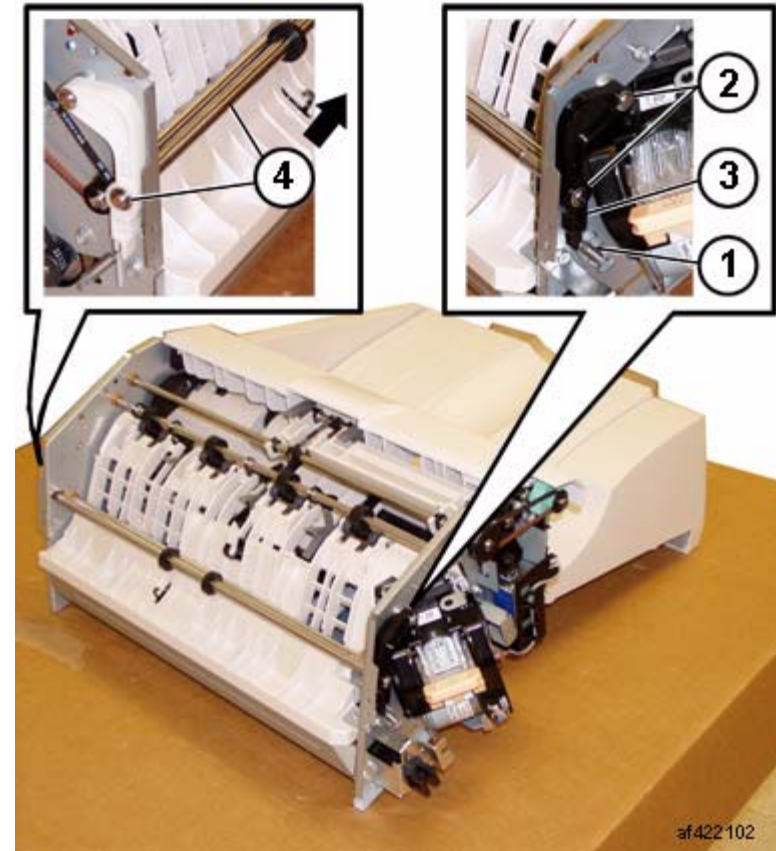

Figure 3 Removing the Gear
8. Remove the Entrance Roll Assembly (Figure 3):